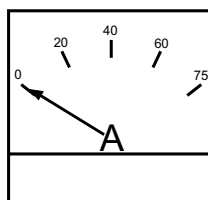

Figure 51. Ammeter (No Load)
13. The ammeter (Figure 51) will indicate zero amps with no load applied. When a load is applied, this meter will indicate the amount of current that the load is drawing from the generator's alternator.